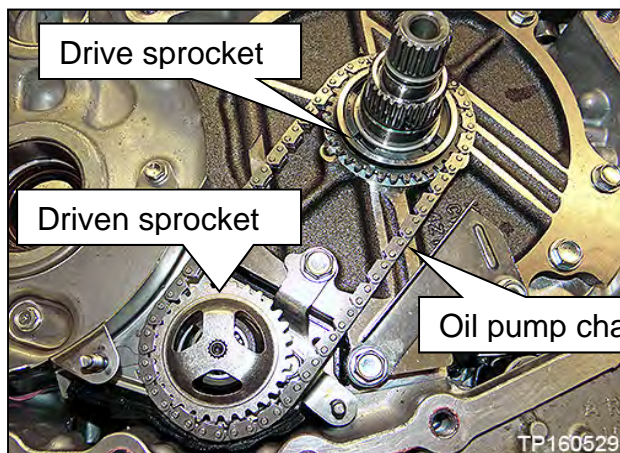

Figure 43
24. Remove the oil pump chain, driven and drive sprockets as one assembly (Figure 43).